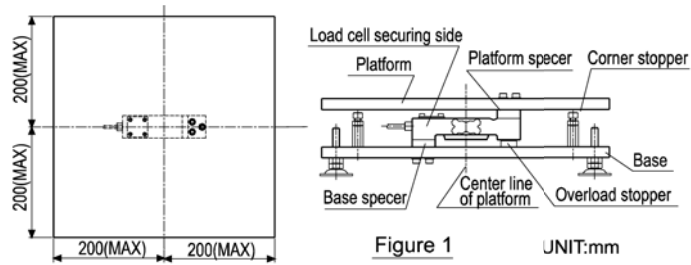

Figure 1 UNIT:mm
- (1) The tare and the platform should be as light as possible to prolong the service life and excellent performance of the load cell.
- (2) Insert a spacer with 10 mm or greater between the load cell and the platform.
- (3) Use a platform fixture with high rigidity. The mounting surface for the load cell and the spacer requires a surface finish of 100S (JIS) or more.
- (4) Use hexagon socket head bolts (tensile strength Class 10.9-JIS or over) or high-tension hexagon head bolts (tensile strength Class 10.9-JIS or over) to attach the platform fixture to the load cell. Table 1 shows the applicable clamping torque. Avoid using ordinary bolts (of low tensile strength) available on the market.
- (5) Make sure that the attaching surface is clean and free from foreign matter. Tighten the bolts while using much care not to apply unnecessary force (torsion or lateral load) to the load cell.
- (6) For the allowable dimensions of the platform, see Figure 1. Also, when designing a platform, see the "OVERLOAD PRECAUTIONS" on the next page.